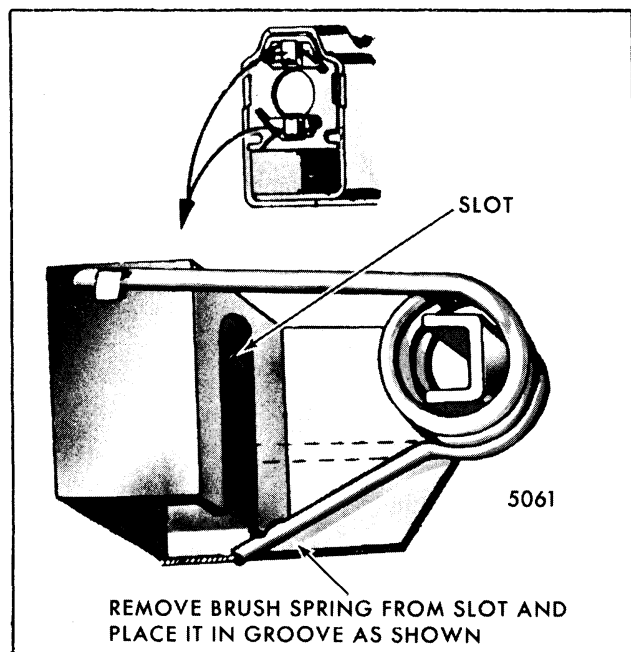

Fig. 2-18-Removing Brush Spring Tension
4. Turn motor section as required to gain access to brush plate assembly and release brush spring pressure against brushes (Fig. 2-18).